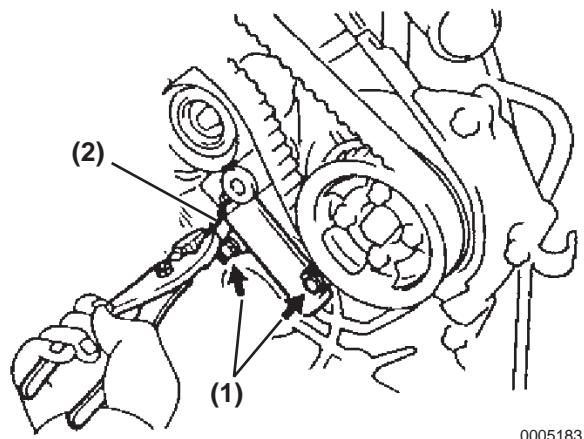

Figure 5-183
- Temporarily secure the timing belt tensioner using 2 bolts (**Figure 5-183, (1)**), while pressing the idler pulley onto the timing belt.
- Remove the 1.5 mm allen / hex wrench (**Figure 5-183, (2)**) from the tensioner.